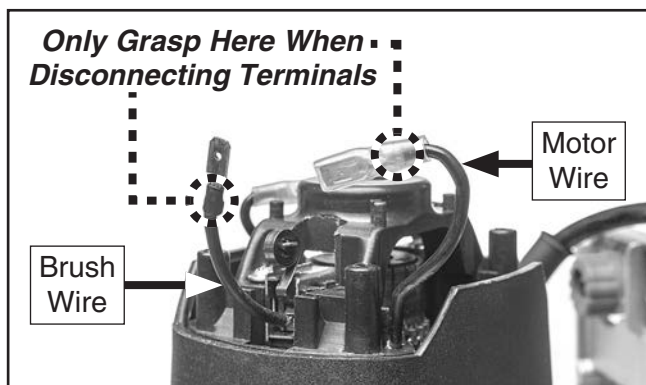

Figure 31. Disconnecting motor brush wires.
5. Use needle-nose pliers to disconnect brush wires from motor wires by carefully pulling apart terminal connectors (see **Figure 31**).